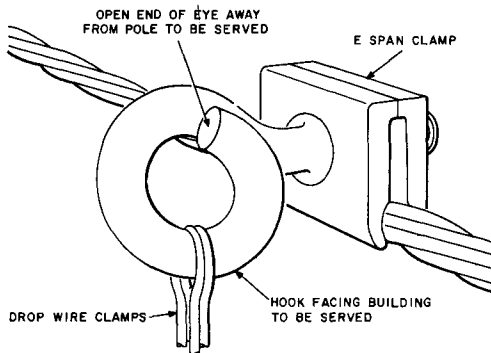

Fig. 2—E Span Clamp on Strand
**2.01** Span clamps are placed on suspension strand as follows (Fig. 2):